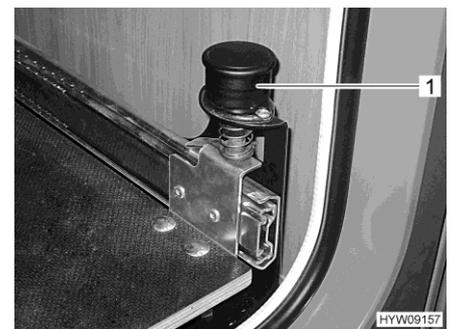

Fig. 85 Knob with locking device
- Pull the knob (Fig. 85,1) upwards. The gas bottle compartment pull-out is unlocked.